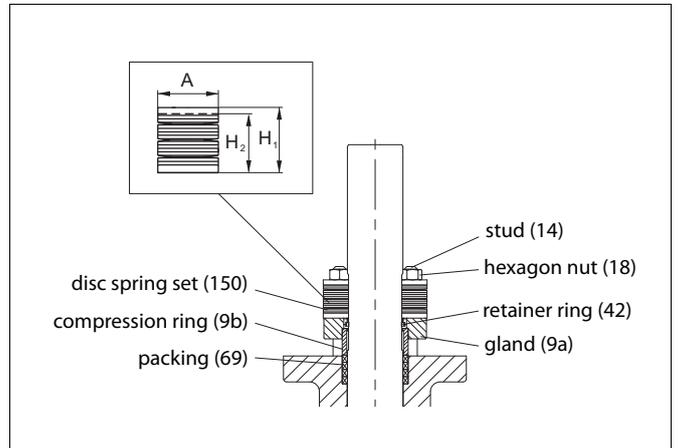

Fig. 21. Gland packing, D1F_G, D2_G
- ❑ Unfasten the nuts (18) and remove the disc spring (TA-Luft) kits (150), the gland (9a), the retainer ring (42) and the compression ring (9b).
- ❑ Remove old packing rings (20). Do not damage the surfaces of the packing ring counterbore and shaft.
- ❑ Slip the retainer ring (42) on the shaft and push it against the compression ring, see Figure 21. See also the caution.